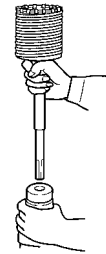
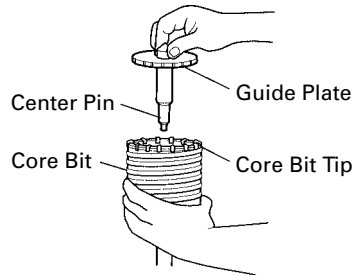

Fig. 16
Fig. 17
- (2) Mount the core bit shank to the rotary hammer. (Fig. 16)
- (3) Insert the center pin into the guide plate until it stops.
- (4) Engage the guide plate with the core bit, and turn the guide plate to left or right so that it does not fall even if it faces downward. (Fig. 17)